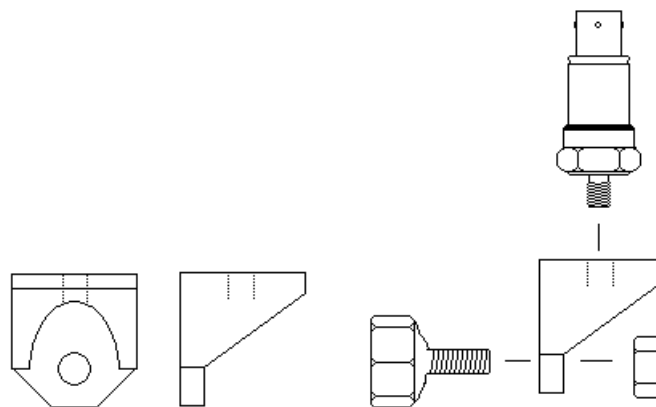

Figure 1
1. Install the vibration sensor mount from the Balancing Package, item 12, as far forward and near the first support bearing aft of the propeller as possible. You may use the appropriate case bolt adapter as necessary for attaching the mount. Orient the mount so that the sensor will be vertical with the threaded mounting stud pointing toward the prop shaft.
2. Install the vibration sensor, item 5, on the vibration sensor mount installed in step 1 above. (See figure 1. below) Torque the sensor to 25 inch pounds.